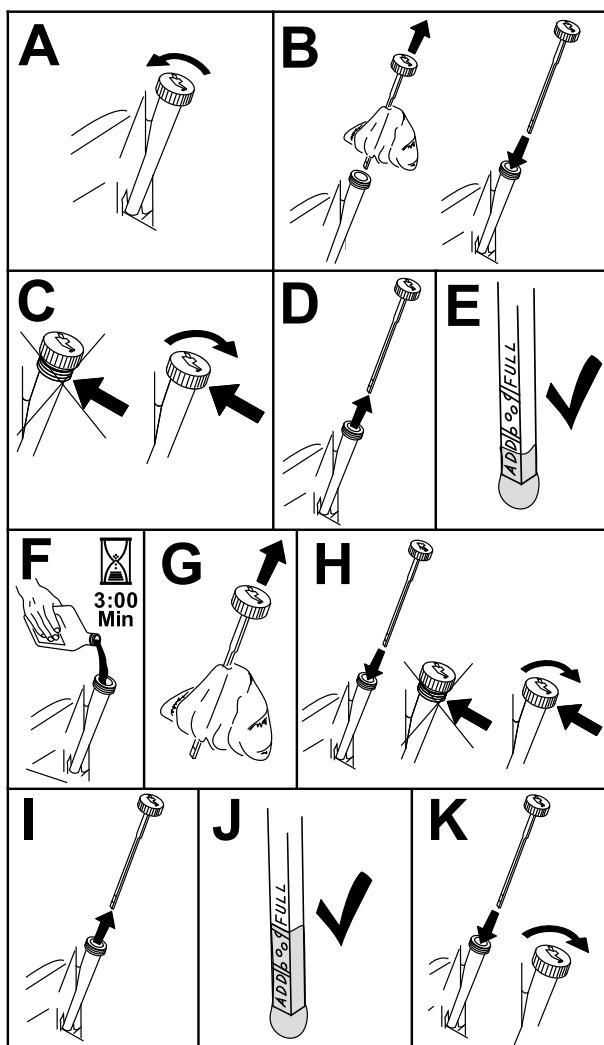

Figure 33
- To keep dirt, grass clippings, etc., out of the engine, clean the area around the oil-fill cap and dipstick before removing it (Figure 33).